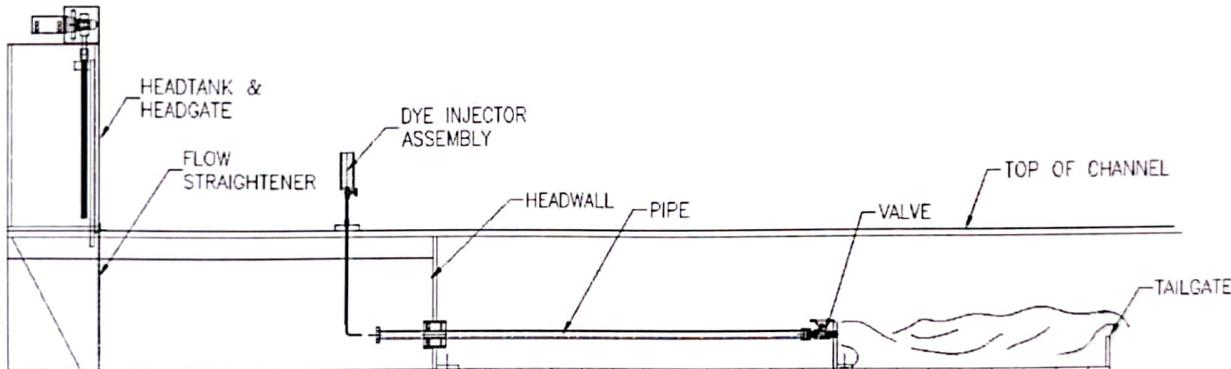

Figure 1 Installation
1. Initial settings (Fig. 1):
2. Mount the head wall to the channel floor midway along the upstream channel segment using two (2) #10-24UNC-2A x 0.625" long Round Head Machine Screws (RHMS).
3. Install the Reynolds apparatus model into the headwall as shown. Engage the o-ring at the pipe connection. Fit the valve and support at the downstream end of the tube. Secure the valve to the channel floor using two (2) #10-24UNC-2A x 0.625" long Round Head Machine Screws (RHMS).
4. Mount the dye well onto the channel top rail with the dye injector two (2) inches upstream of the tube inlet. Secure the dye well using the provided C-clamps. Adjust the dye injector tube to center on the tube inlet. Fill the dye reservoir with vegetable dye (food coloring).